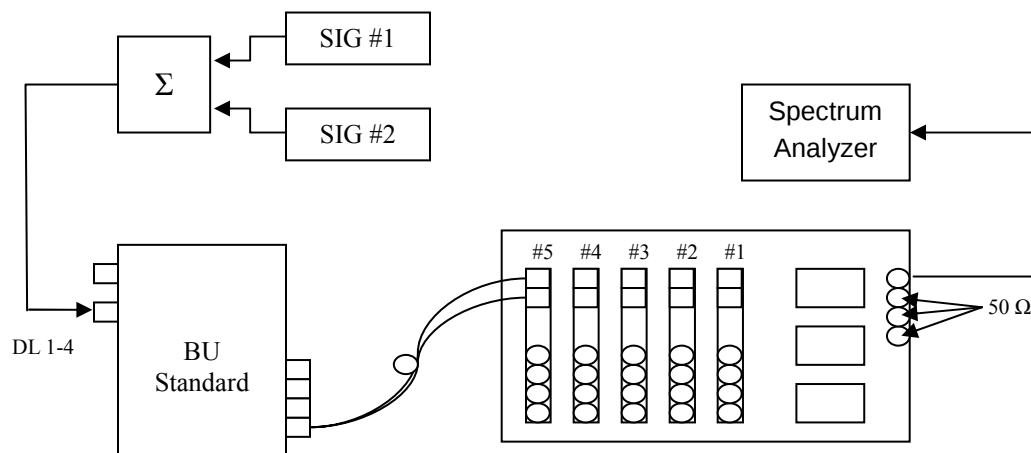

Figure 5.1 DL IMD3 Setup
5.2. Connect Spectrum Analyzer to the relevant Cabinet Antenna port, BU to the relevant RHU in the cabinet and Signal Generators to the DL port in the BU (via RF Combiner), as shown at Figure 5.1.